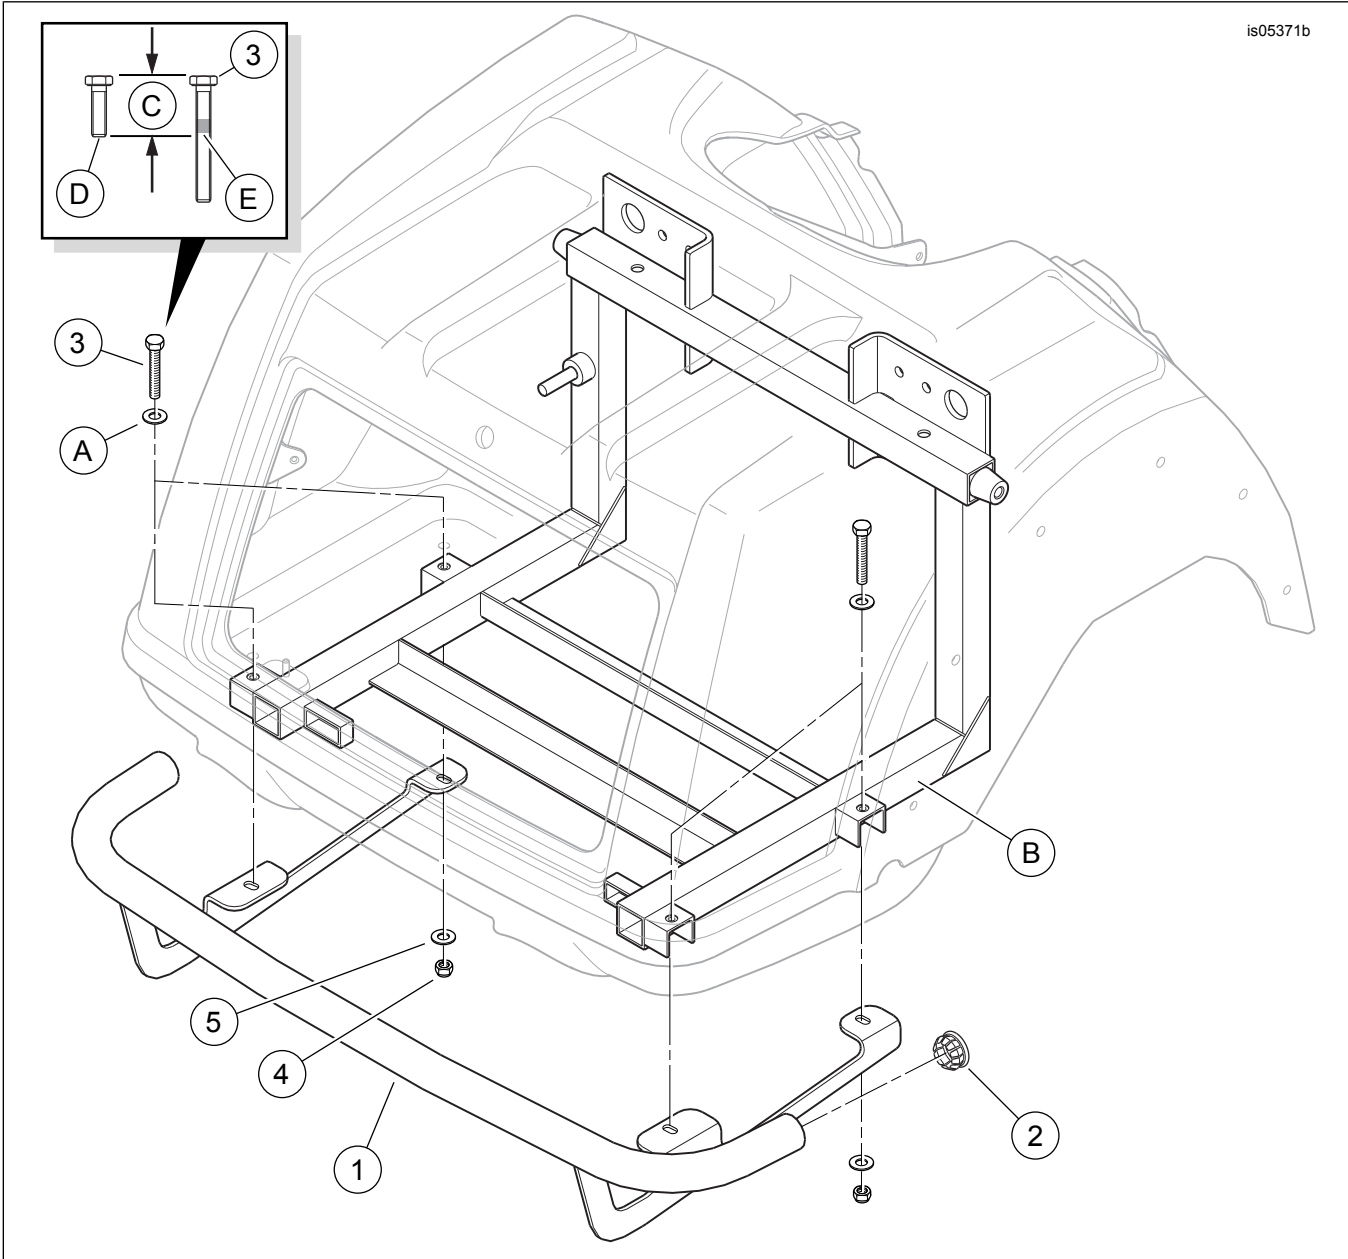

Figure 1. Kit Contents: Trike Rear Guard
1. See Figure 1. Locate four screws with washers (A) in floor of trunk compartment that hold the body to rear frame. Leaving the washer in place, remove one of the screws. Save screw for next step, then discard.
2. See Figure 1. Apply threadlocker to screw (3).